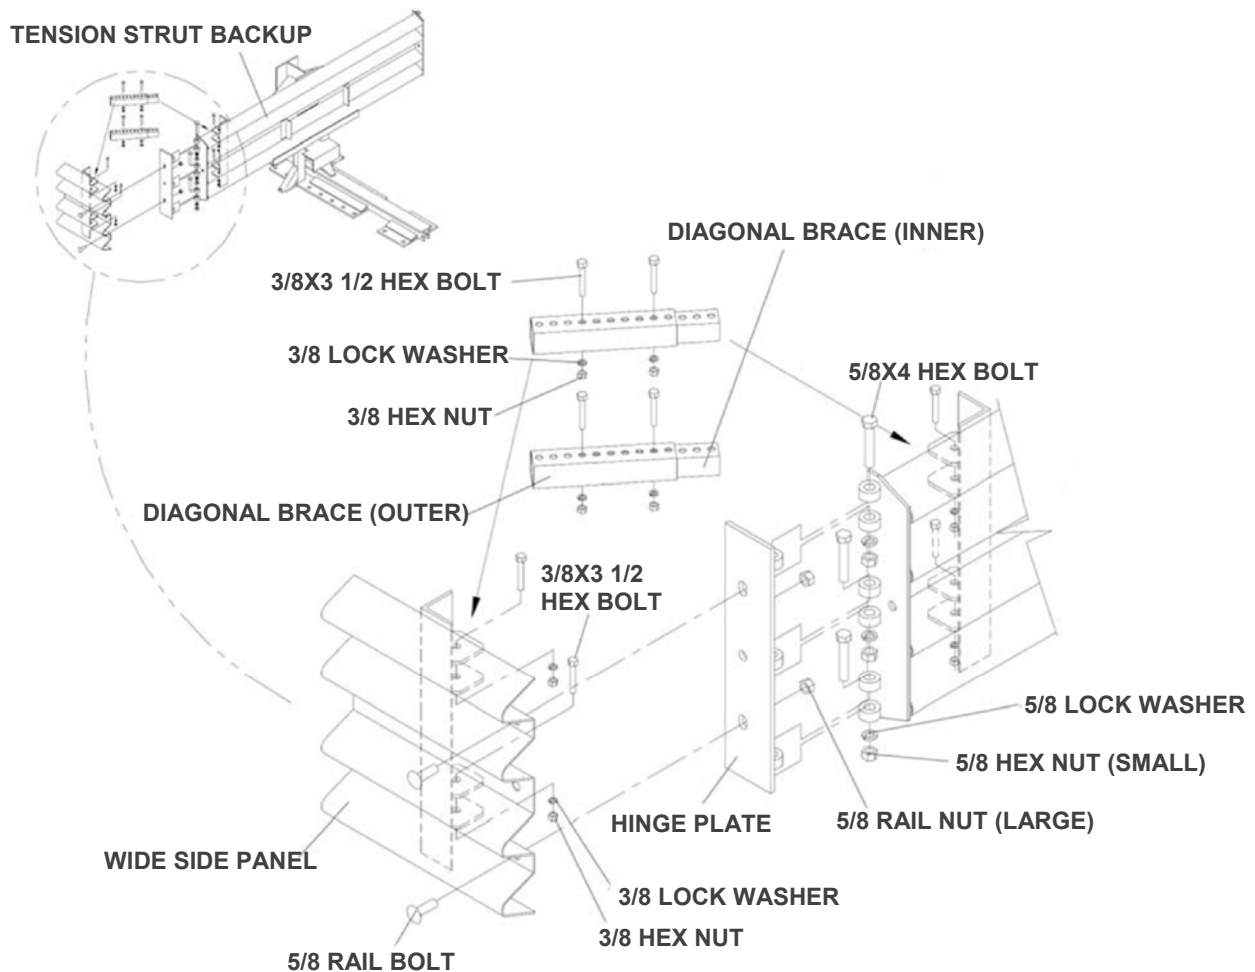

Figure 19
- A. Attach Hinge Plates to Backup (three (3) places on each side of Backup) using a 5/8" rail bolt, lock washer, and hex nut.
- C. Attach diagonal brace to Side Panel or transition and Backup using 3/8" a hex bolt, lock washer, and hex nut (two (2) places per brace and four (4) places per side).
- D. Secure each diagonal brace set in two (2) places with a 3/8" hex bolt, lock washer, and hex nut (Figure 19).